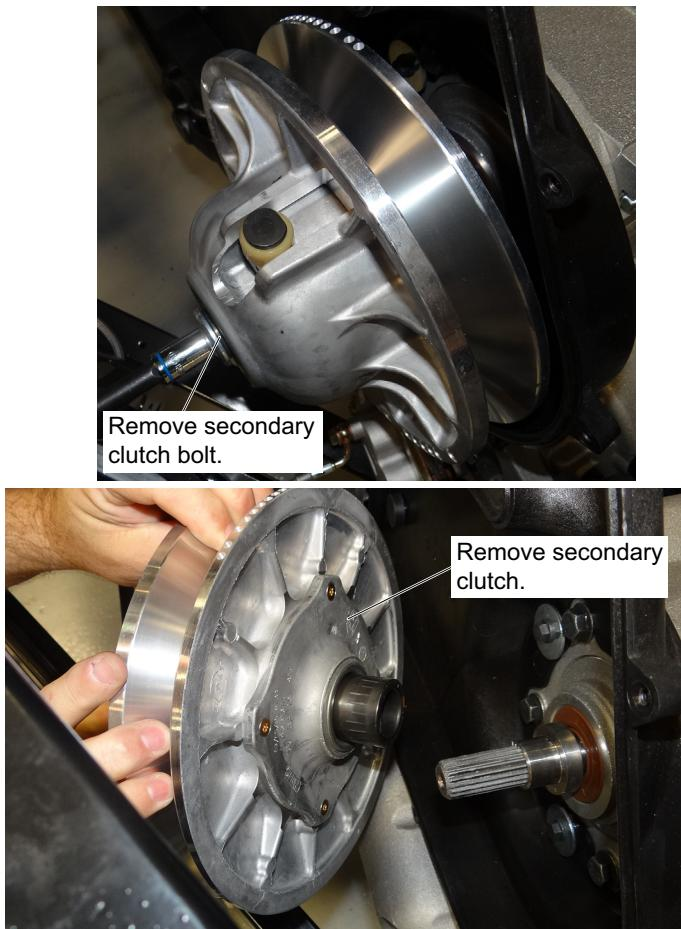

Fig. 5 Secondary Clutch Removal
3. Insert the clutch puller tool and tighten (clockwise) which will remove the clutch from the engine crankshaft (Ref. Fig. 5).